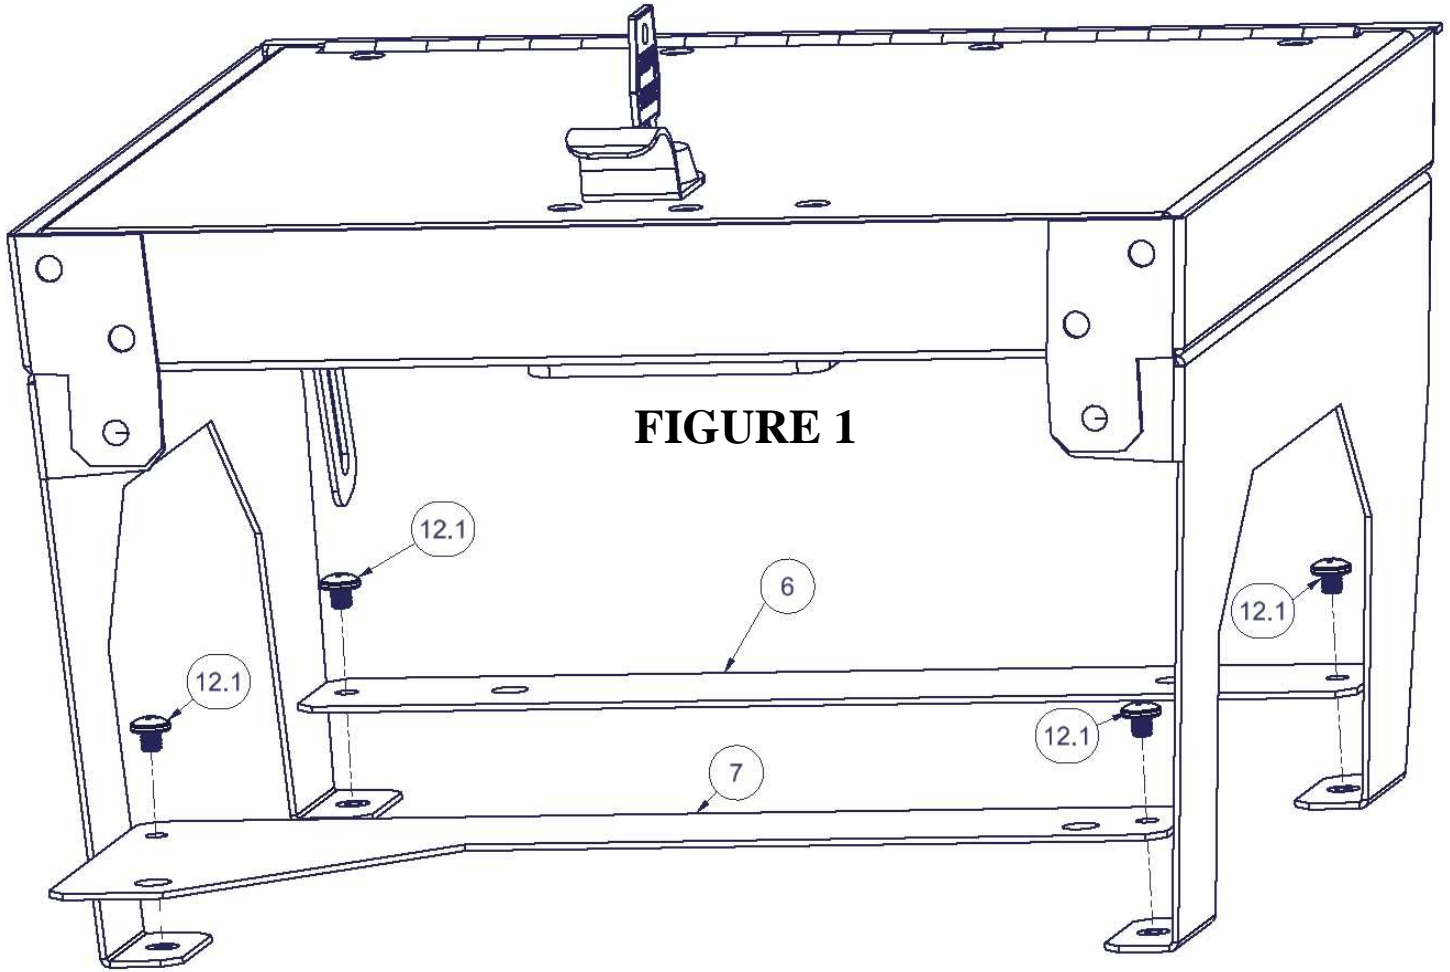

FIGURE 1
2. Unlock the lid of the #323 Console Insert and rest on a flat surface, open the lid, expand the legs and attach the #6 and #7 Bottom Plates to the main body as shown in Figure 1, using (4) #12.1 screws.